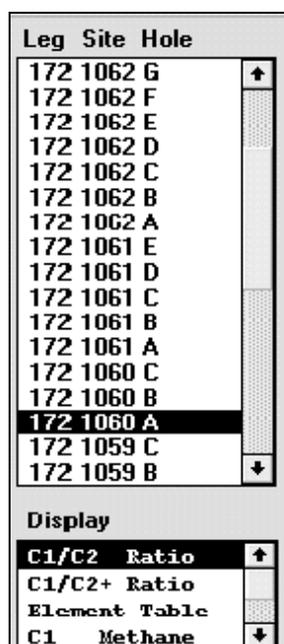

Figure 2. Select data to be displayed here
Use the graph controls to select the data to be displayed on the graph (See Figure 2).
1. Select the leg, site and hole from the list box displayed in Figure 2. Do this by clicking on your selection once with the mouse.